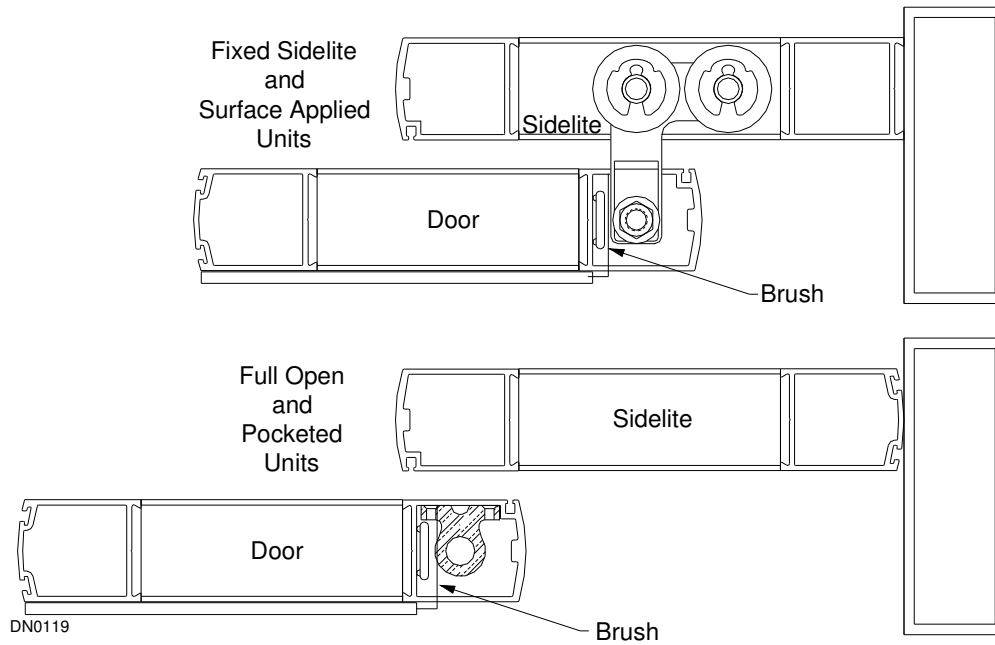

Figure 40
6. Due to location of bottom guides, weathering can not cover full length of door bottom. The installer may cut excess brush at end of extrusion or bend excess brush back 90° under door (and over floor track for partial tracks of Full Open and Pocketed units). This will provide additional seal around bottom guides at rear edge of door (See Figure 40).